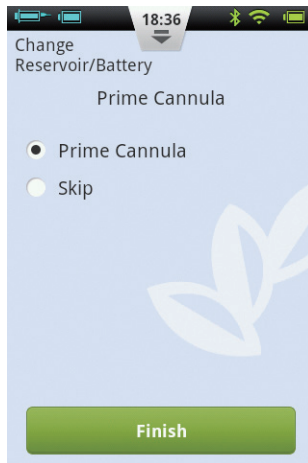

Figure 84
**5** Now choose whether or not to prime the cannula (Figure 84). Upon completion, the pump will begin to deliver.